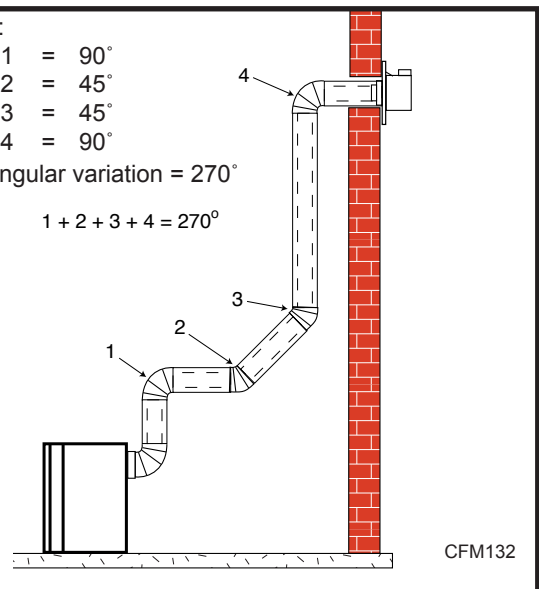

Fig. 24 Maximum number of elbows.
- The maximum number of 45° elbows permitted per side wall installation is two (2). These elbows can be installed in either the vertical or horizontal run.
- The maximum number of elbow degrees in a system is 270°. (Fig. 24)